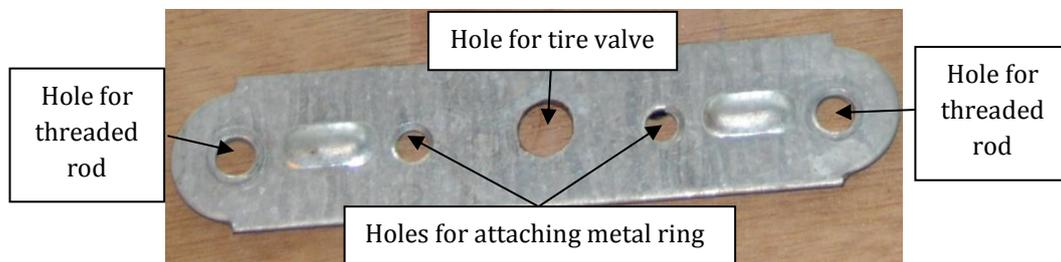

Figure 8. Mending plate
1. Prepare the mending plate by drilling a hole through the center of the plate. The size of the hole must be the same as the size of the car tire valve. Drill two holes at the opposite ends of the plate. The holes must be large enough to pass the threaded rods through them (see Figs 8, 14). Drill two more, smaller holes as shown in the Fig . 8. They are going to be used for attaching the metal ring.